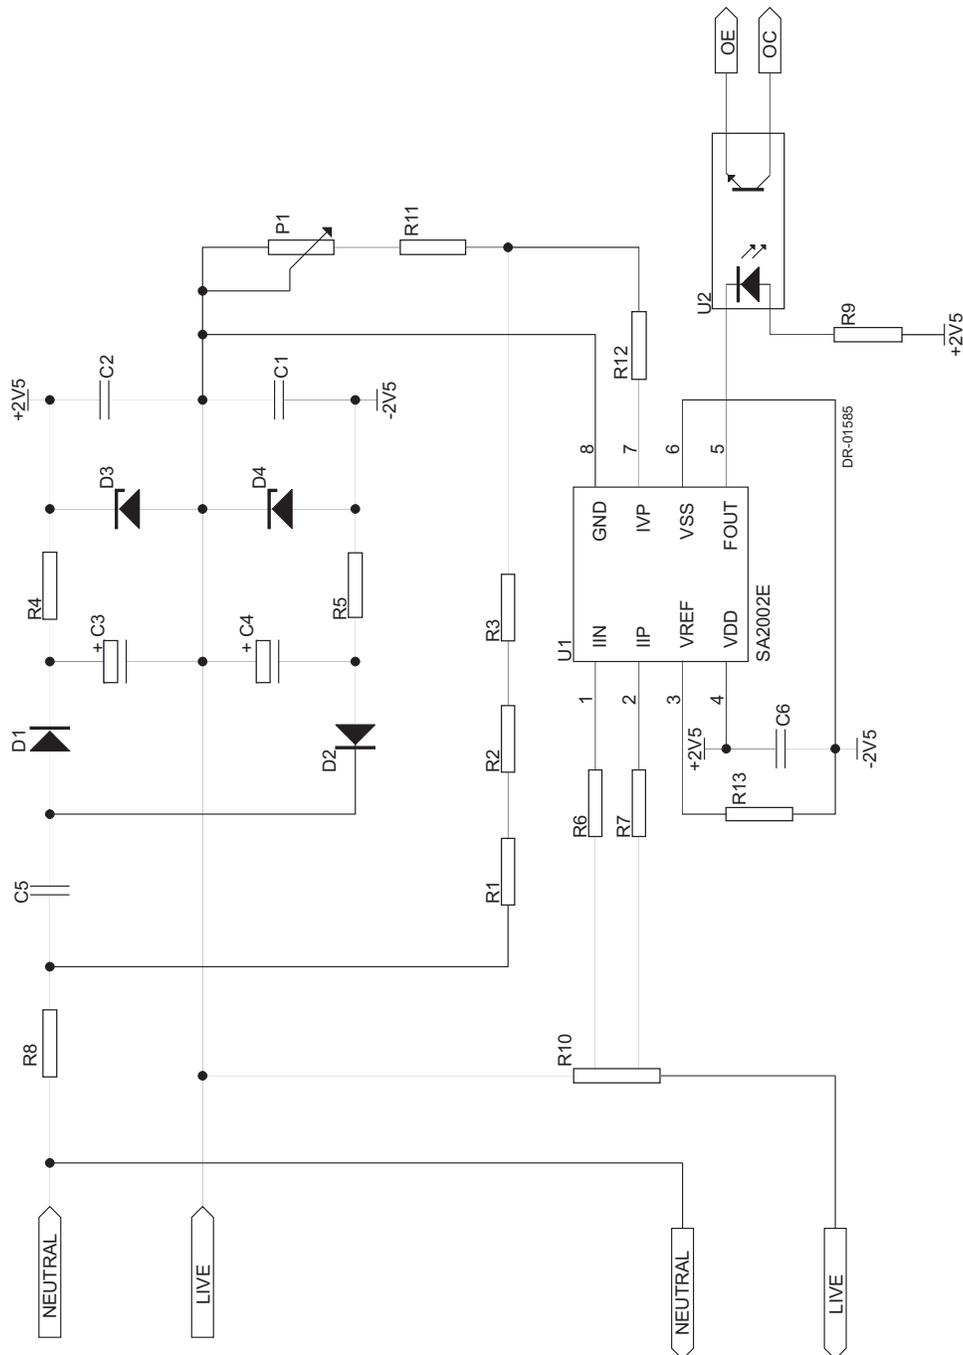

Figure 10: Application circuit using a shunt resistor for current sensing.
In figure 10, the components required for stand alone power metering application, is shown. The application uses a shunt resistor for the mains current sensing. The meter is designed for 220V/40A  $I_{MAX}$  operation. The most important external components for the SA2002E integrated circuit are the current sense resistors, the voltage sense resistors as well as the bias setting resistor.
**Parts List for Application Circuit: Figure 10**